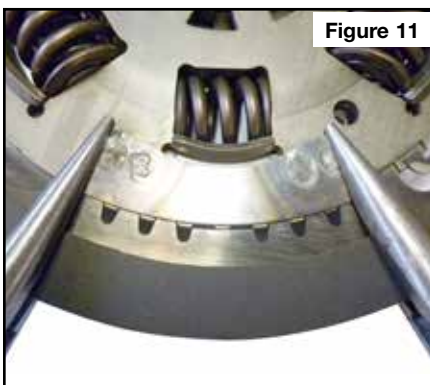

Figure 11
- d. Newly peened rivets should be welded for best results. Clamp down on plates to hold into place for welding (Figure 11).